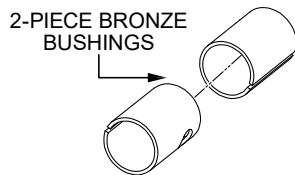

Figure 81. Bronze Bushings
5. Examine the bronze trowel arm bushings (Figure 81), and clean them if necessary. Replace the bushings if they are worn or out-of-round.